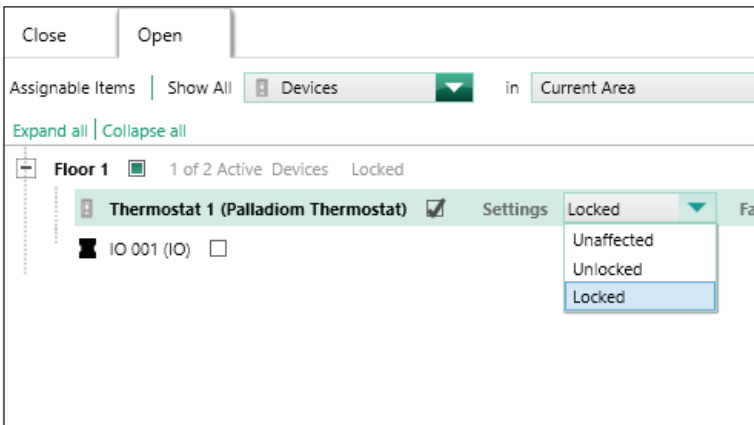

Figure 6
- Set the thermostat to be Locked when the door/window is Opened as shown in Figure 6.